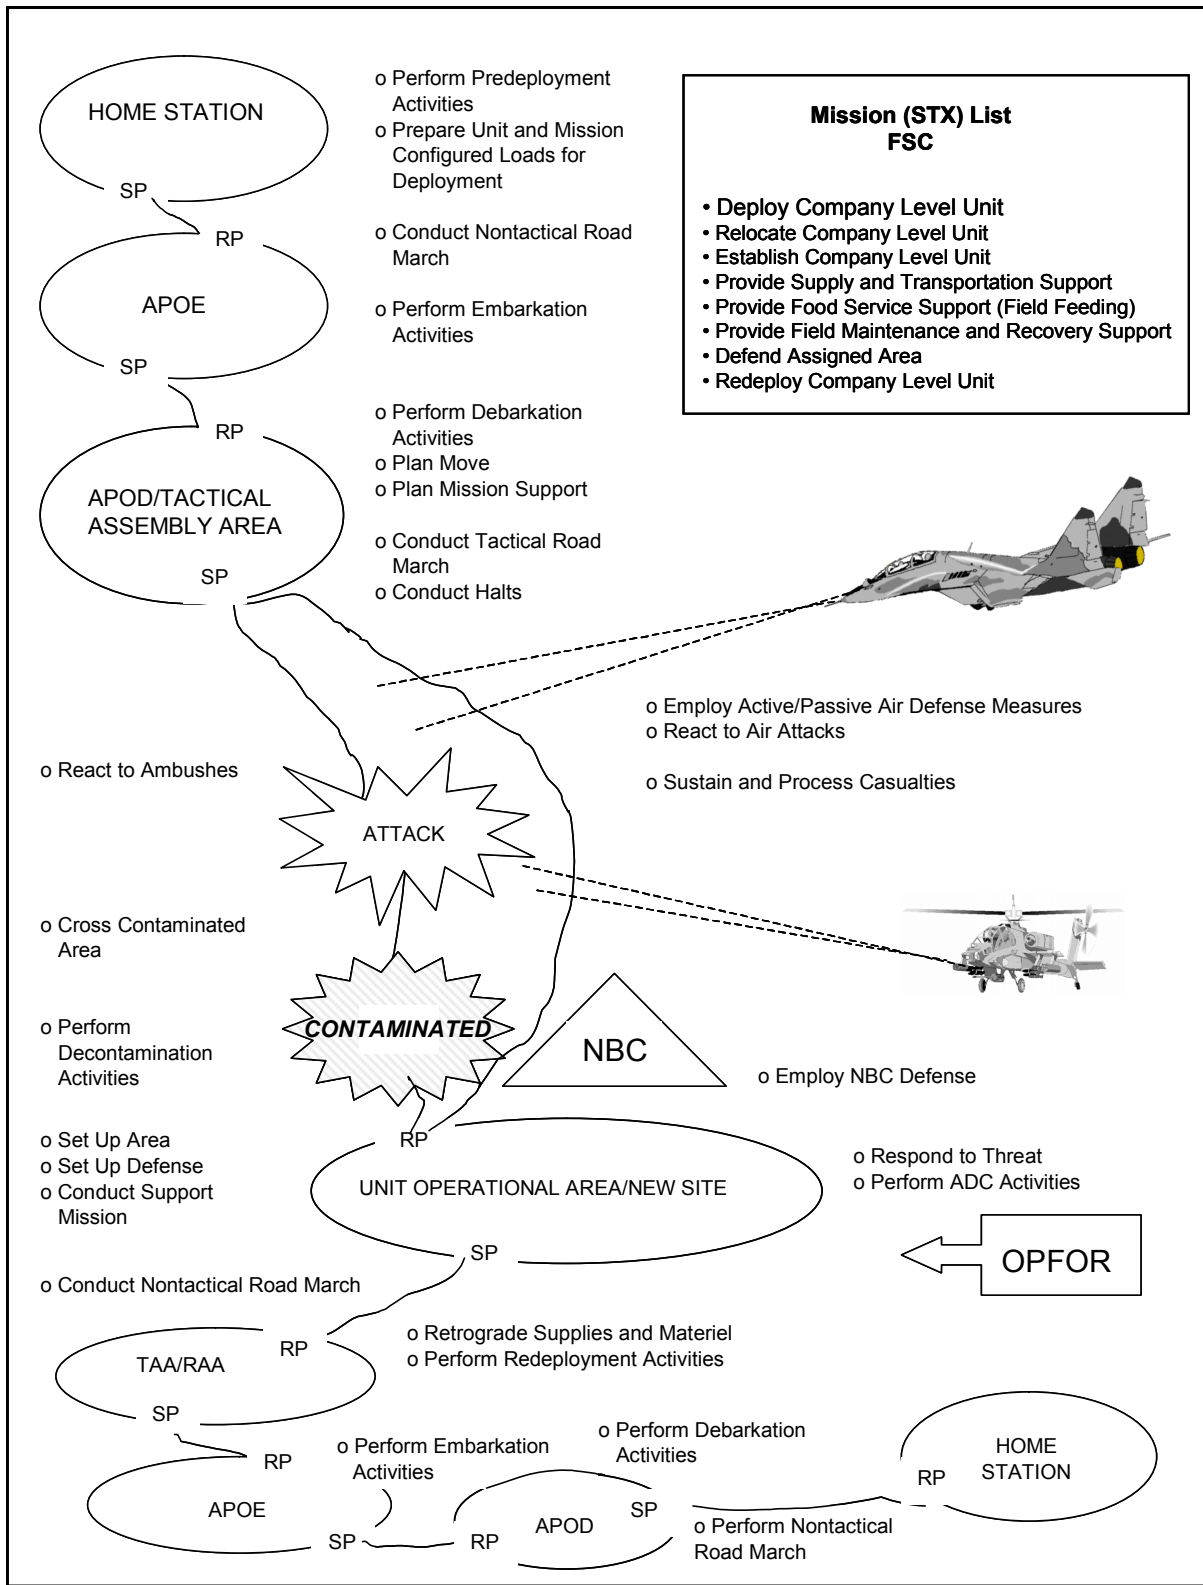

Figure 4-2. General Scenario
f. Figure 4-2 represents the suggested scenario and illustrates the general sequence of tasks performed in this exercise. This exercise may be conducted under varying options.
- (1) Conditional options in support of: